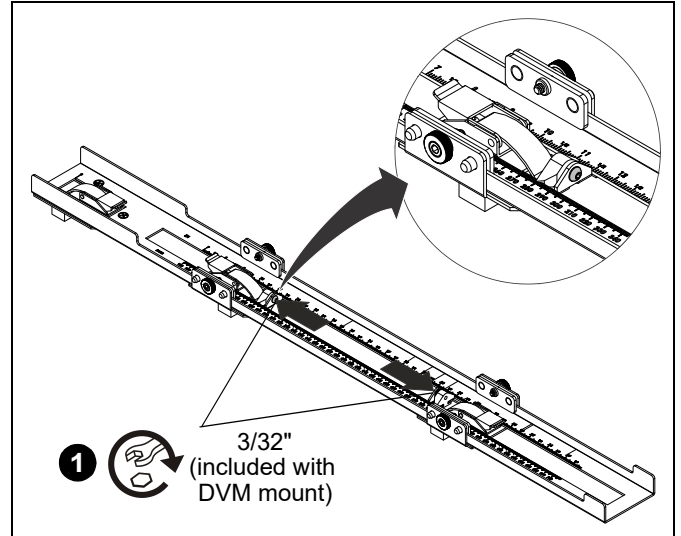

Figure 10
1. The spacer tool (A) can be calibrated by adjusting the screws on the inside edges of the sliders. (See Figure 10)